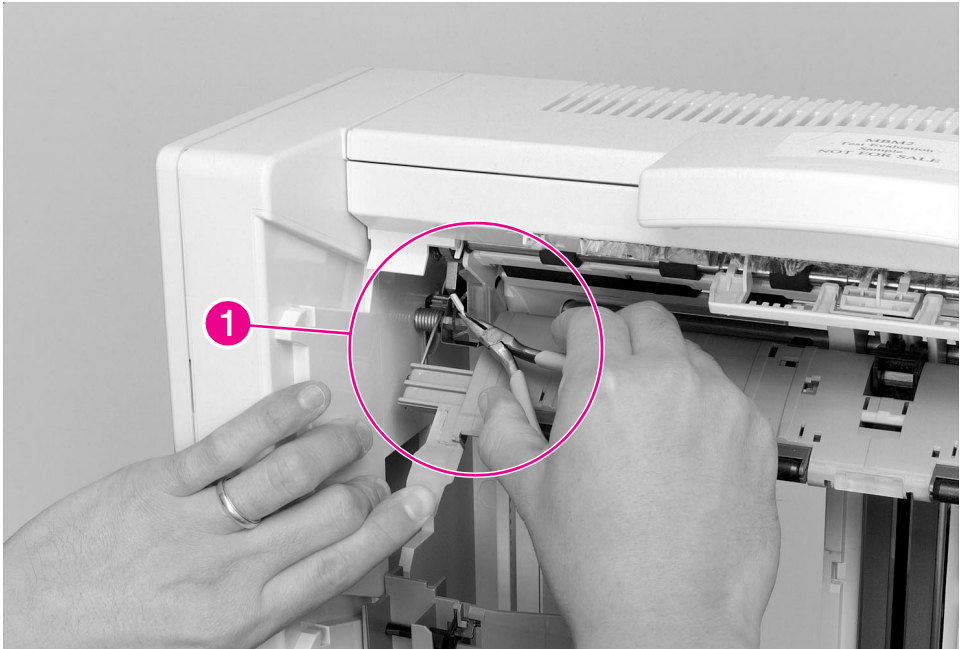

Figure 6-161 8-bin Mailbox Input Paper Guide (1 of 2)
- 3** Hold down the Jam Access Door while unplugging the ground wire that runs from the Input Paper Guide to the Flipper Motor (Figure 6-161, callout 1).
- 2** Reconnect the ground wire to the Flipper Motor (Figure 6-161, callout 1).